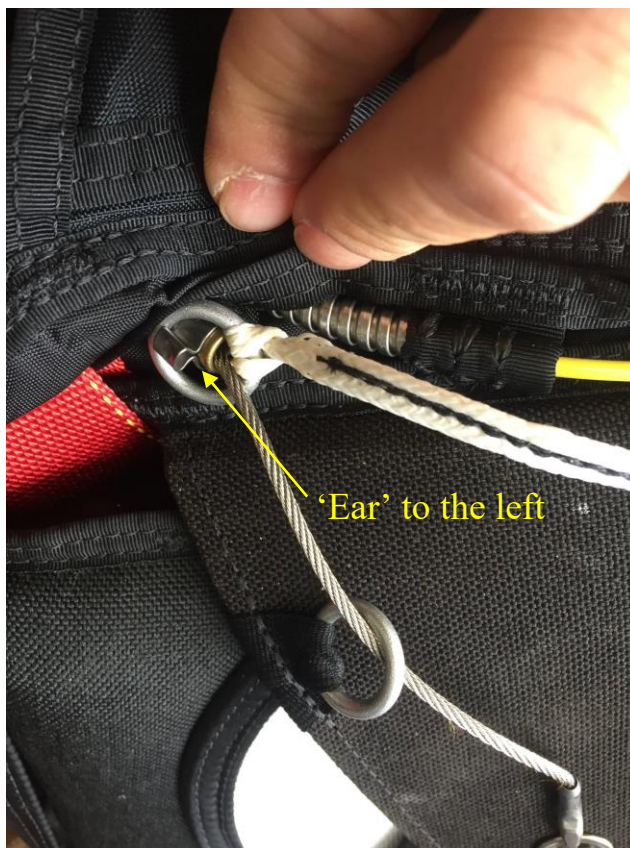

Figure 2
2. On a couple of occasions, the '*ear*' on the anaconda housing has been found facing to the left (See figure 2).
3. If the ear is on the left, and close to the opening, it is possible for the ring on the RSL to snag on the '*ear*' as shown in figure 2.